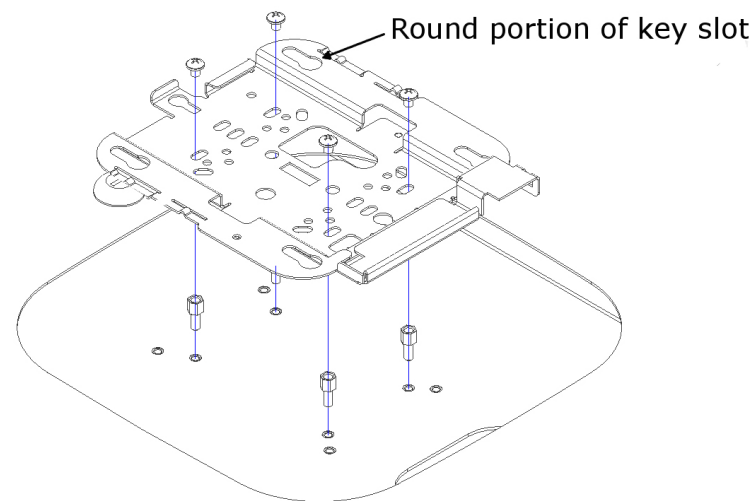

Figure 1 – Close-up showing proper orientation of the Cisco Bracket 2, refer to note for using standoffs
Step 1 – Turn the AP mount over so that the access point opening is facing upward. Install the Cisco mounting plate using four (4) #8-32 pan head screws. The mounting plate should be placed so that the round portions of the key slots are located away from the enclosure lock (reference Figure 1). The Cisco "BRACKET 2" should be used with all Cisco 1400, 1600, 2600, 2700, 3500, 3600, and 3700 Access Points.